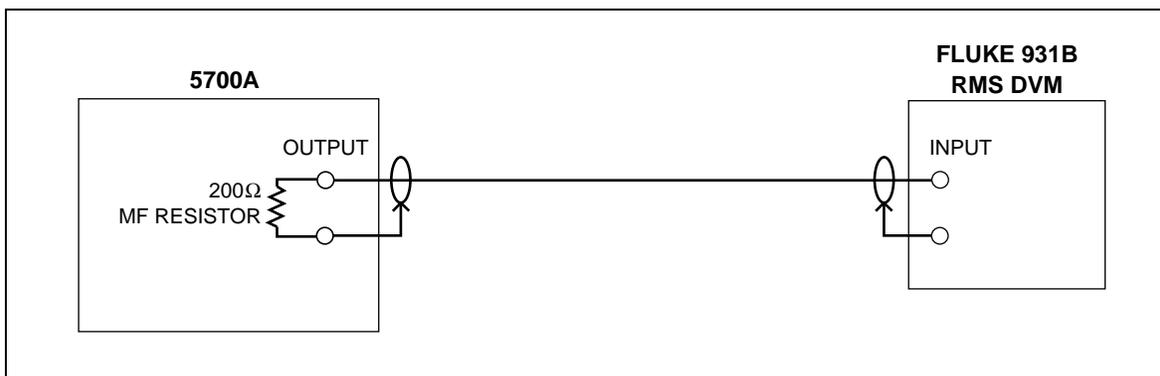

Figure 3A-22. 2 mA AC Current Setup
7. Connect the equipment as shown in Figure 3A-22. Using the same 200 Ω resistor used in step 1.